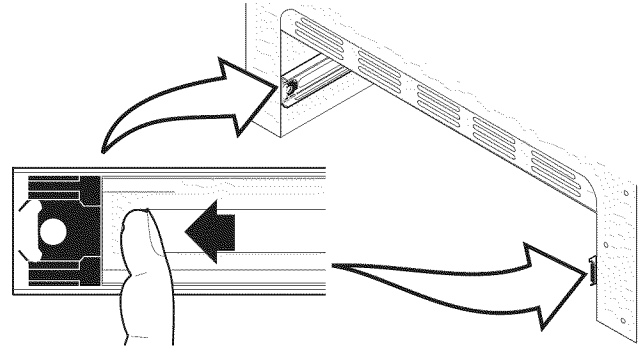

Figure 43: Bearing glide placement
1. Pull the bearing glides to the front of the outer compartment glide channels until they snap into place (See Figure 43).